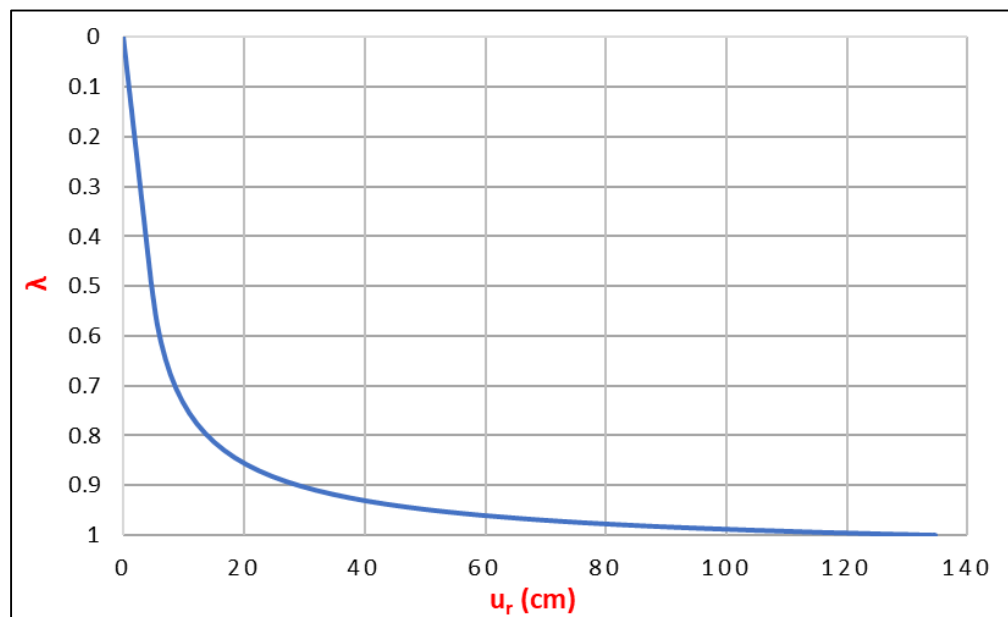

Figure 1. Convergence-confinement curve, based on Duncan Fama (1993) method.
1. Using the RocSupport – Rocscience software and based on the Duncan Fama (1993) convergence – confinement method, the convergence-confinement curve ($\lambda - u$) calculated and is presented on the following *Figure 1*.